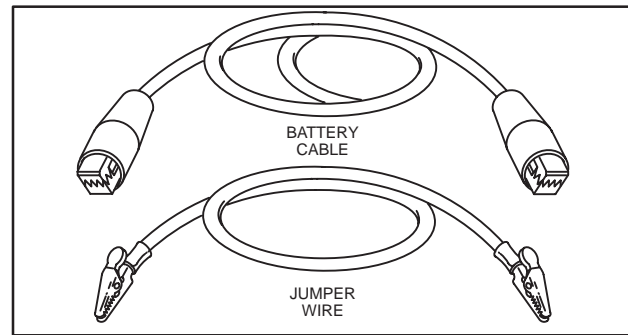

Fig. 48 – Test Equipment
1. One battery cable with alligator clips, Fig. 48.